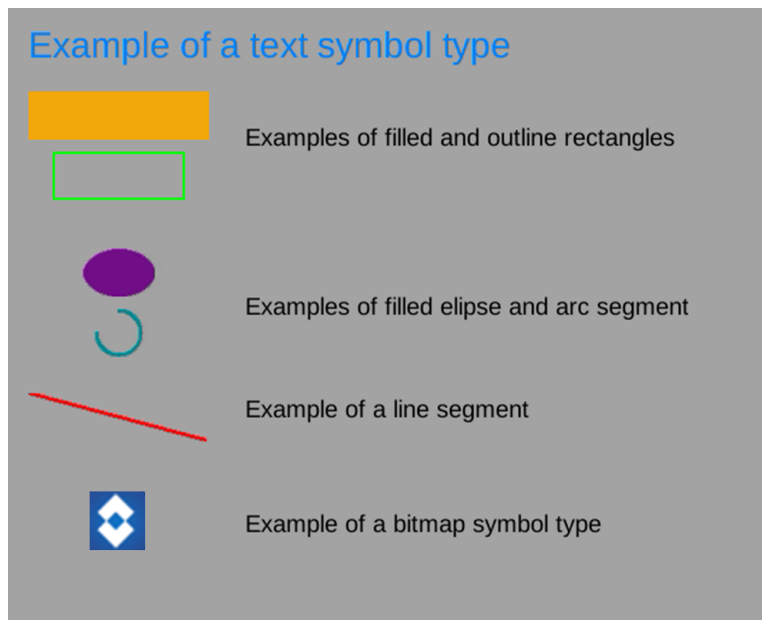

Figure 34: Examples of Boson Symbol Types
The Boson Release 2 configurations provide the option to specify custom symbol overlays. The camera supports several built-in symbol types, including rectangles, elliptical arcs, text, and lines, as exemplified in Figure 34. In addition to built-in symbols types, the camera also allows bitmaps to be uploaded to the camera for display. Width of the bitmap must be an integer multiple of 8.
- Start radius / end radius, from 0 to 360. This attribute applies to the arc segment symbol type only. It specifies the starting angle and ending angle, where angle = 0 is to the right and angle = 180 is to the left. The arc between the starting angle and ending angle is drawn clockwise. For example, the arc segment shown in Figure 34 has starting radius = 270 and ending radius = 180.
- Font type. 1 = built in font (Chrome Croscore Arimo font, used under authority of the Apache License, Version 2.0), 2 = user uploaded font file. This attribute applies to text symbol type only. All of the text shown in Figure 34 was generated with the built-in font.